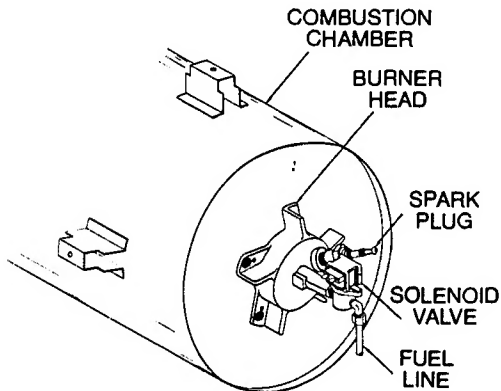

Figure 3
1. For access to the nozzle (Figure 3), remove the upper shell. Disconnect the fuel line, spark plug lead. Remove the screws attaching the burner head assembly to remove it from the combustion chamber.